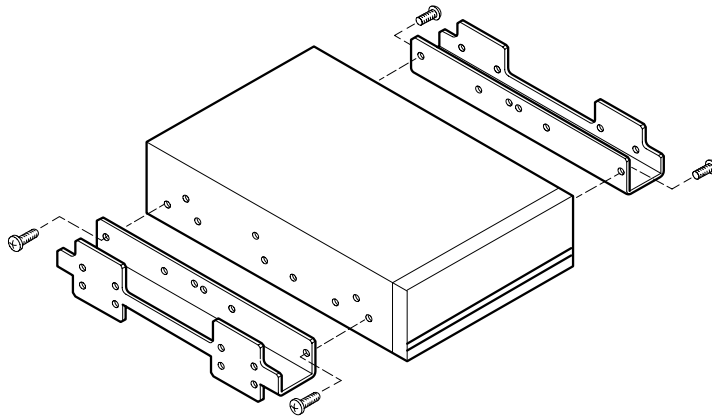

Figure 3-9. Exchange Bracket Mounting
5. If you are installing a 3.5-inch device, add the 3.5- to 5.25-inch exchange brackets, as Figure 3-9 shows. Fasten the drive with the screws provided.